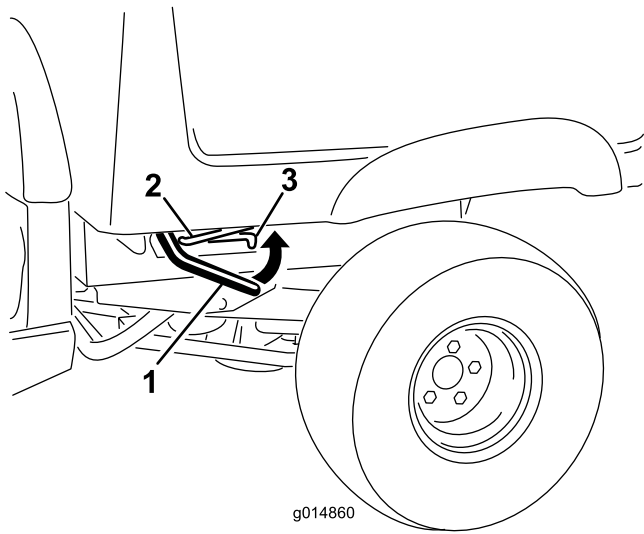

Figure 11
1. Lift the lever on either side of the box and lift the box up (Figure 11).
1. Raise the cargo box slightly by lifting up on the latch lever (Figure 11).
3. Lower the box until it latches into securely (Figure 11).